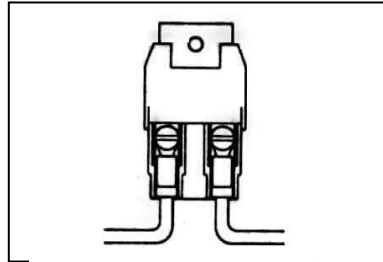

Figure 7-3 Maxi Fuse
- 7.4.1** With crimping tool, attach Maxi Fuse (**Figure 7-3**) onto end of ENGINE SECTION (single) 10 ga. wire #916 (red) AFTER having routed wire from the Fuse Panel to the Starter Solenoid. This serves as a fuse to protect the entire harness. DO NOT OMIT IT!
- 8.2.1** With crimping tool, attach the Maxi Fuse (**Figure 7-3**) onto end of ENGINE SECTION (single) 10 ga. wire #916 (red) AFTER having routed wire (with or without ammeter) from the Fuse Panel to the Starter Relay. This serves as a fuse to protect the entire harness. **DO NOT OMIT IT!**